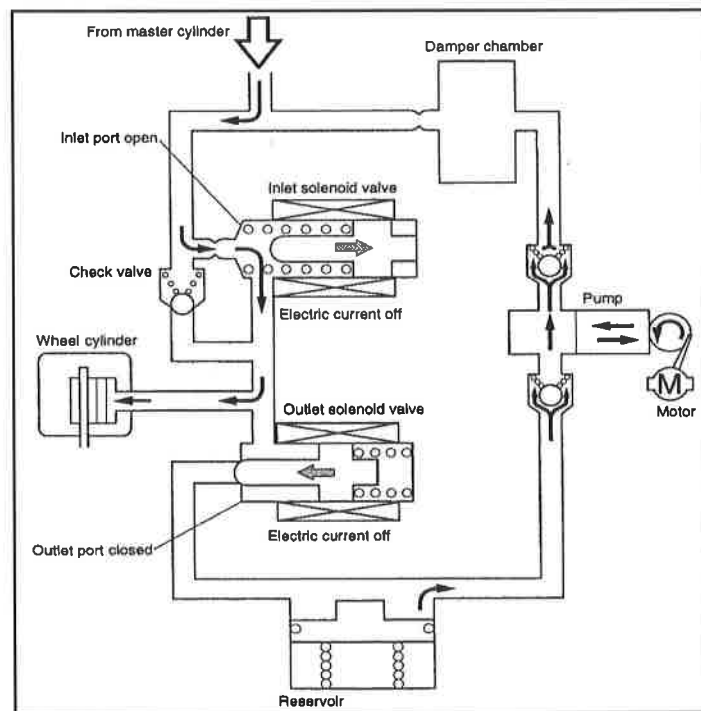

Figure 1: Show an ABS HCU system
- i) Name the operation shown in figure1. (3marks)